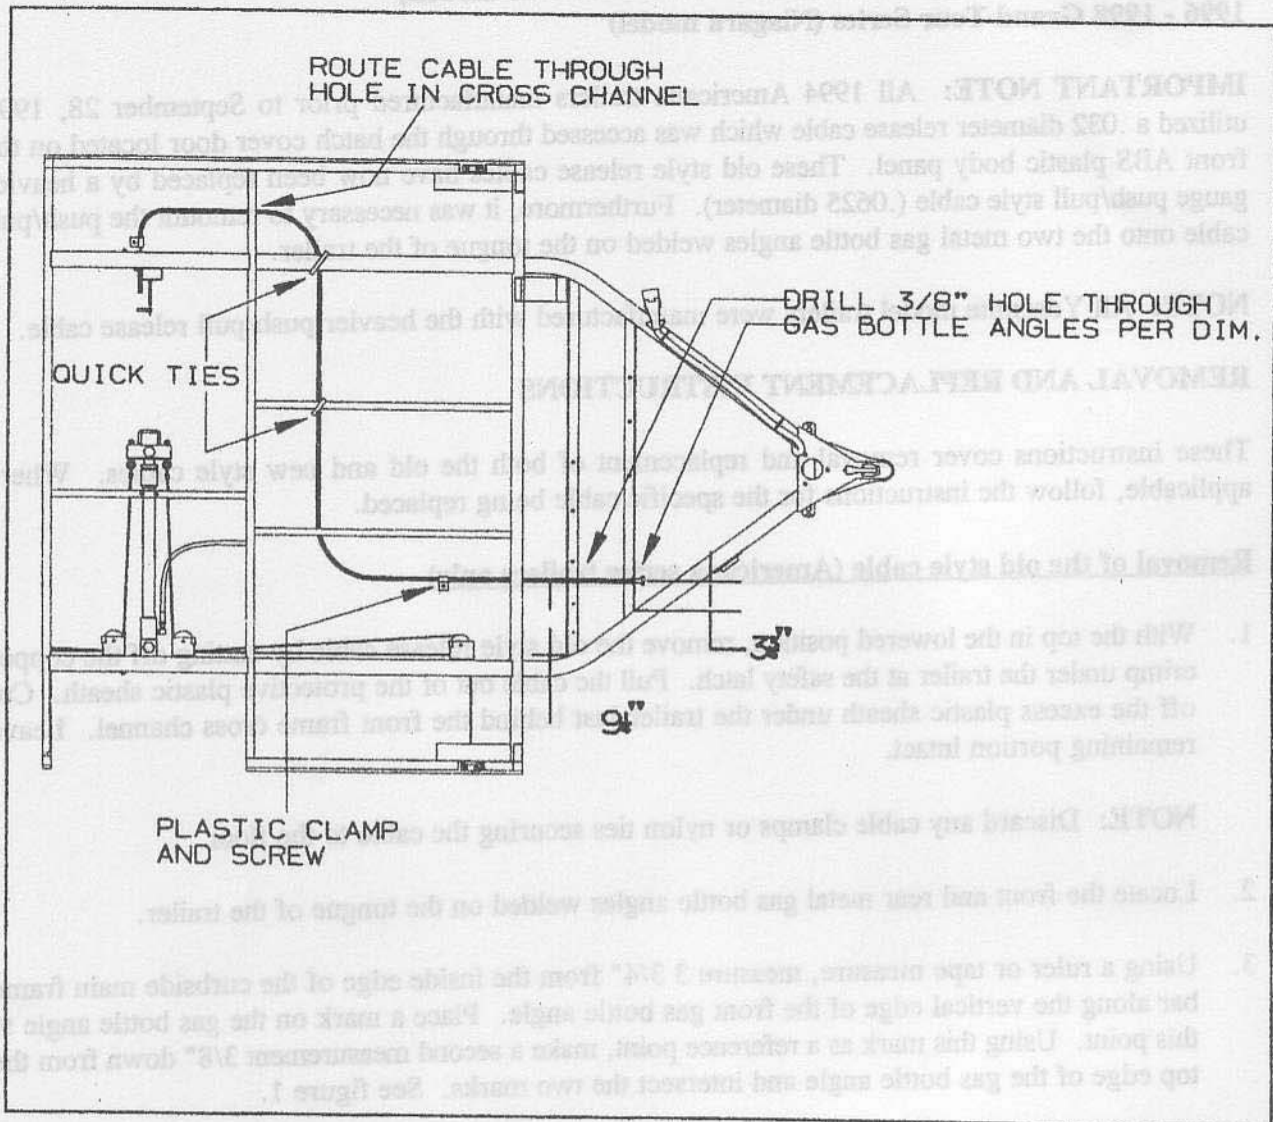

FIGURE 1
3. Using a ruler or tape measure, measure 3 3/4" from the inside edge of the curbside main frame bar along the vertical edge of the front gas bottle angle. Place a mark on the gas bottle angle at this point. Using this mark as a reference point, make a second measurement 3/8" down from the top edge of the gas bottle angle and intersect the two marks. See figure 1.
14. Route the remaining cable under and through (where applicable) the trailer frame. If necessary, space the two plastic clamps and nylon ties as shown in figure 1. Secure the plastic clamps to the trailer floor with the two 5/8" wood screws provided. Refer to figures 1 and 2.